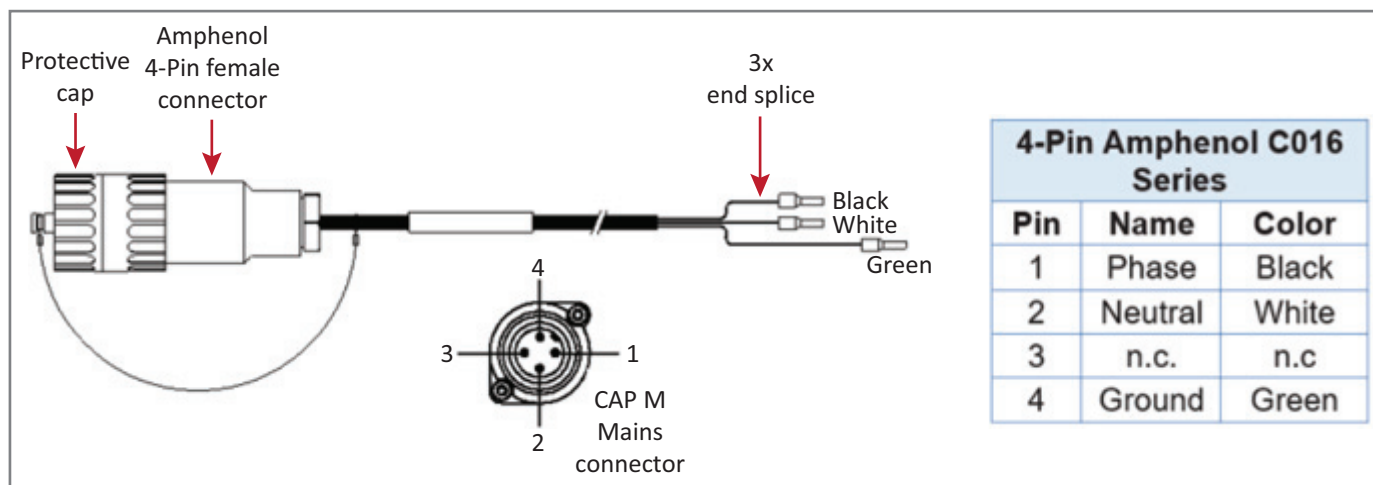

Figure 22. CAP M AC Power Cable
The AC power cable is a 3.2 m (10.5 ft) 16 AWG cable with a 4-pin Amphenol C016 series plug on one end to connect to the CAP M Mains connector. The other end of the cable is unterminated with 3 end splices to connect to the AC power source. A 10 m (33.7 ft) AC power cable is also available as an option. The AC power cable is shown in Figure 22.
- Figure 22 on page 64 for the AC power cable